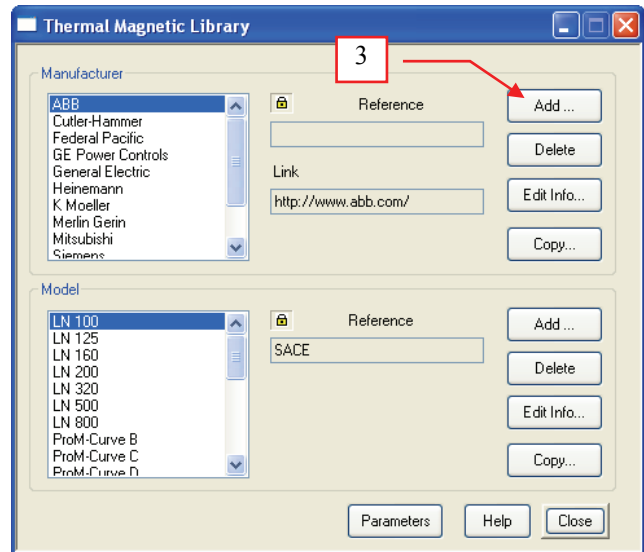

Fig. 14
3. In the “Manufacturer” frame of the “Thermal Magnetic Library” dialog box, click the “Add...” button. See Fig. 14.